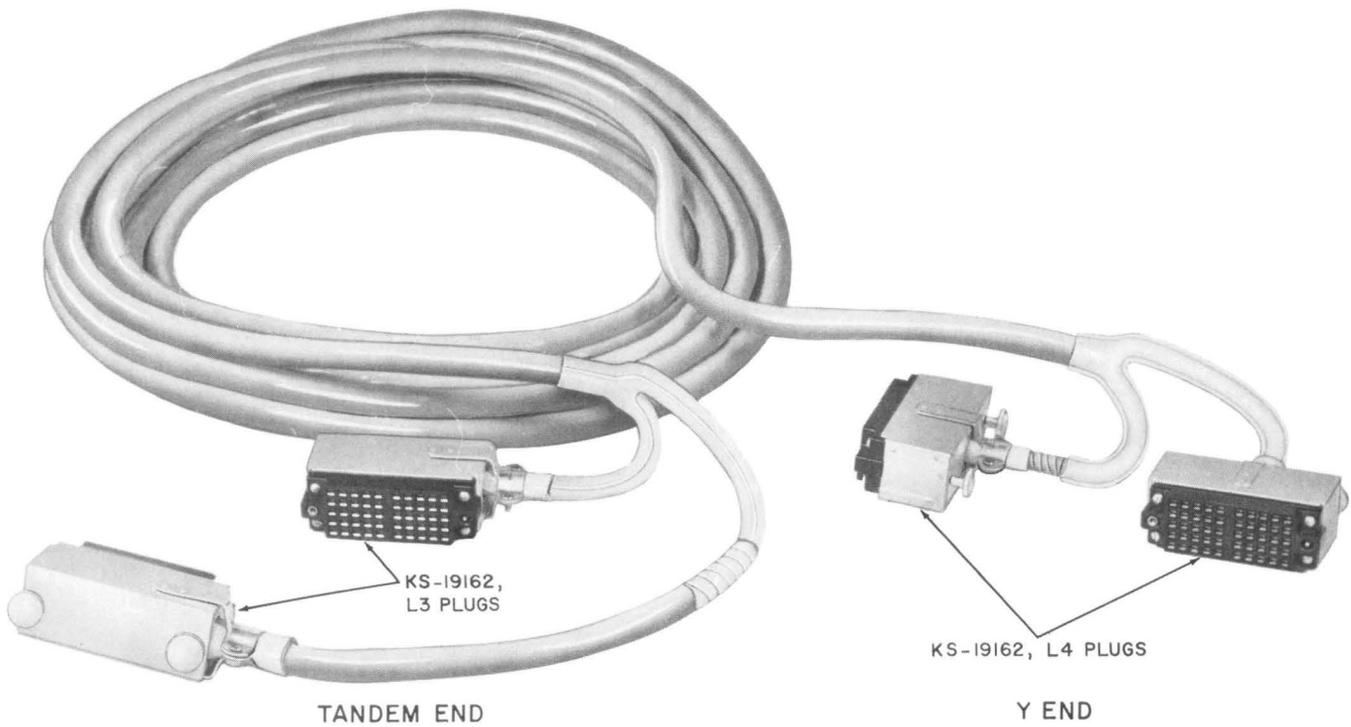

Fig. 7—P100A Cord
5.01 The P100A and P100B Cords are illustrated in Fig. 7 and 8. The cords are not supplied with the test connectors, but must be ordered separately.